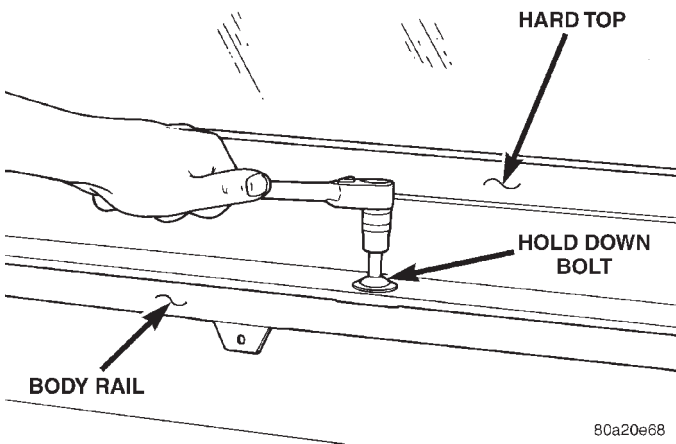

Fig. 43 Hard Top Removal
- (2) Remove the bolts that attach the hard top to the body (Fig. 43).